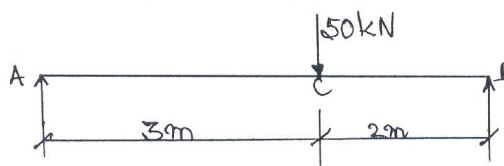

Fig.Q3(b)
- b. A simply supported beam AB has a span of 5m and carries a point load of 50 kN at a distance of 3m from left end A as shown in Fig.Q3(b). Find the deflection under the load and also maximum deflection in the beam.